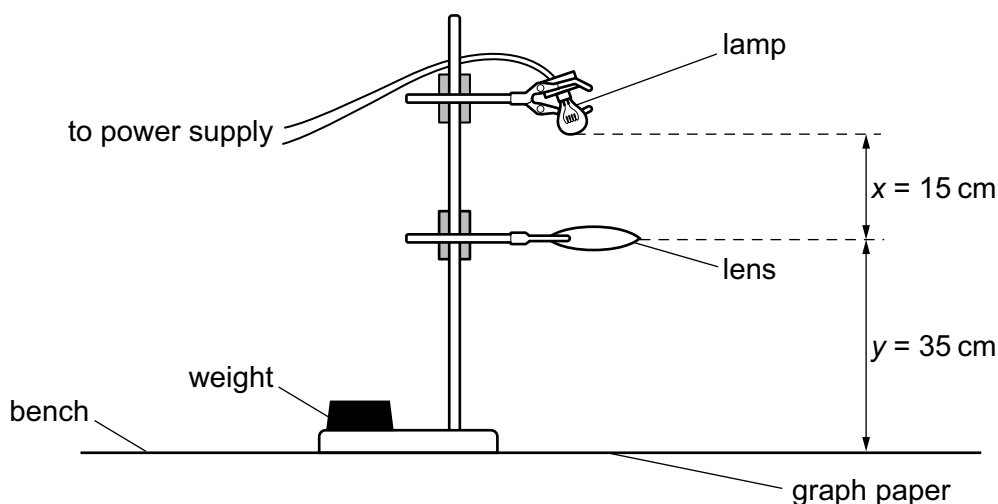

Fig. 2.1
- 1 The lamp should be a small torch lamp of approximate diameter 1 cm, 2.5 V, 250 mA, filament indicator lamp, clear, e.g. RS 106-313. It must be placed in a small holder, e.g. RS 171-2603 so that it can be held by the clamp. The clamp should be fastened to the stand so that the lamp is a distance of approximately 50 cm above the bench, as shown in Fig. 2.1. The distance y between the bench and the centre of the lens must be 35 cm. The lamp must be connected to a suitable power supply. The apparatus should be set up in a darkened part of the laboratory.
The supervisor must ensure that a plain sheet of graph paper, with no markings or measurements from previous candidates, is placed on the bench underneath the lamp for the next candidate. The supervisor must also ensure that the distances x and y are as shown in Fig. 2.1.